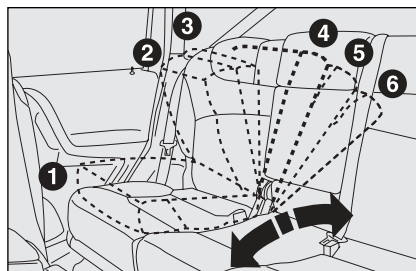

fig. 16
- ☐ move the rear sliding seat fully backwards with the seat back at 4th position, as shown in **fig. 16**.
- ☐ move the rear sliding seat fully backwards with the seat back at 4th position, as shown in **fig. 16**;